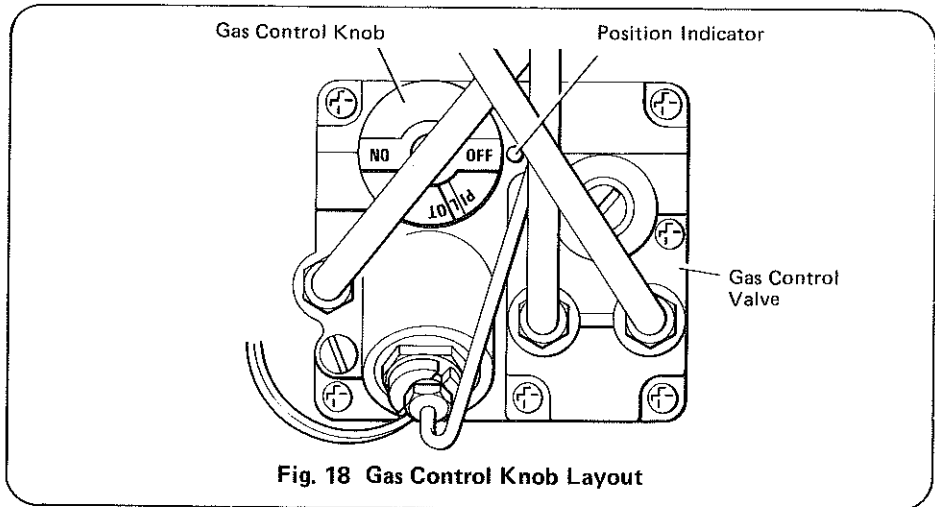

Fig. 18 Gas Control Knob Layout
- If the control knob is 'ON', turn the control knob clockwise to 'PILOT' position, partially depress knob and turn clockwise to 'OFF'. (See Fig. 18).
A. To Light the Burner: SEE DIAGRAM OF GAS CONTROL KNOB (Fig. 18).